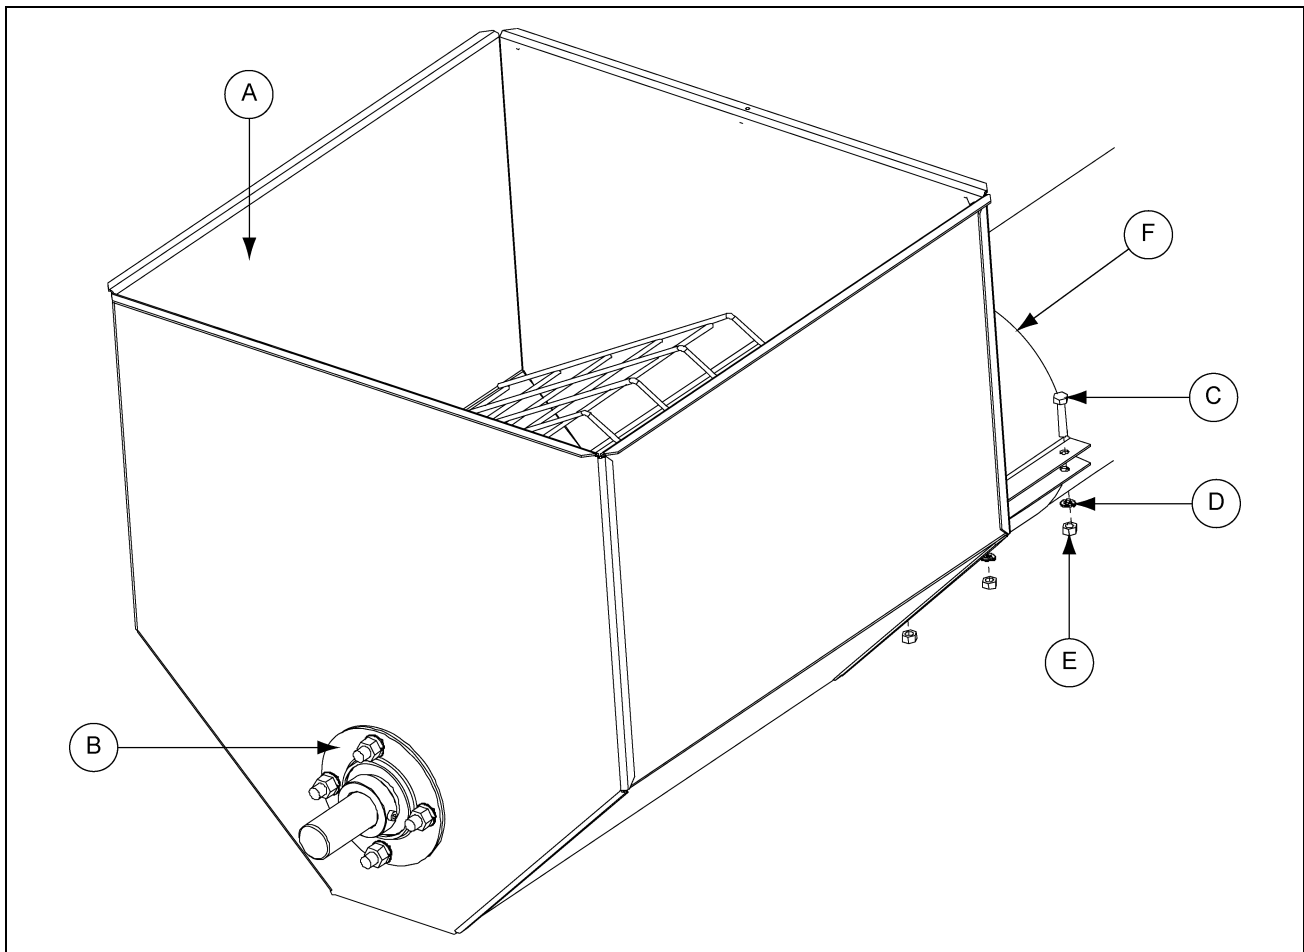

Figure 4X
- Slide the hopper (A) onto the tube and align the end of the flight approximately 12 mm from the surface of the bearing (B). With the proper distance set, install the proper bolt (C), lock washer (D) and nut (E) and secure the hopper (A) to the tube. (See Chart below and Figure 4X.)